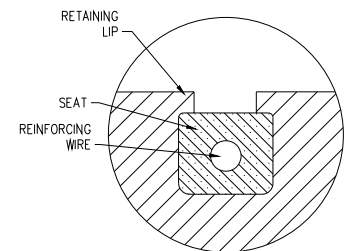

Figure 5
- G. Once the seat is positioned under the retaining lip, as in figure 5, use a blunt piece of wood or plastic to gently tap the seat to the bottom of the seat trough.